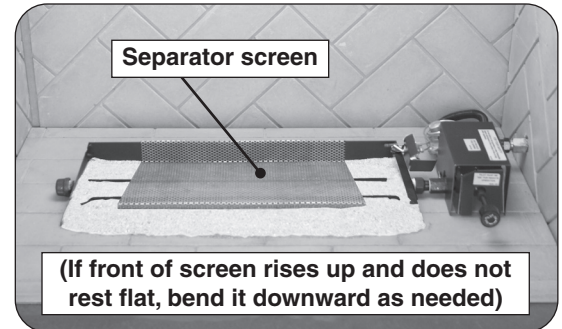
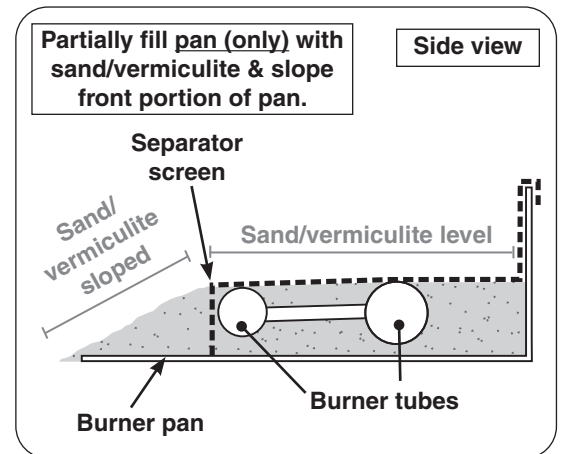

Fig. 21-2 Place screen
Fig. 21-3 Sand/vermiculite & screen detail
- Slope the sand/vermiculite in the front portion of the pan (see Fig. 21-3).
2. Place the separator screen over the sand/vermiculite and pan. The rear of the screen must hook over the rear of the burner pan as shown in Fig. 21-2 and Fig. 21-3. If the front of the screen rises up from the floor of the pan, bend it downward as needed.